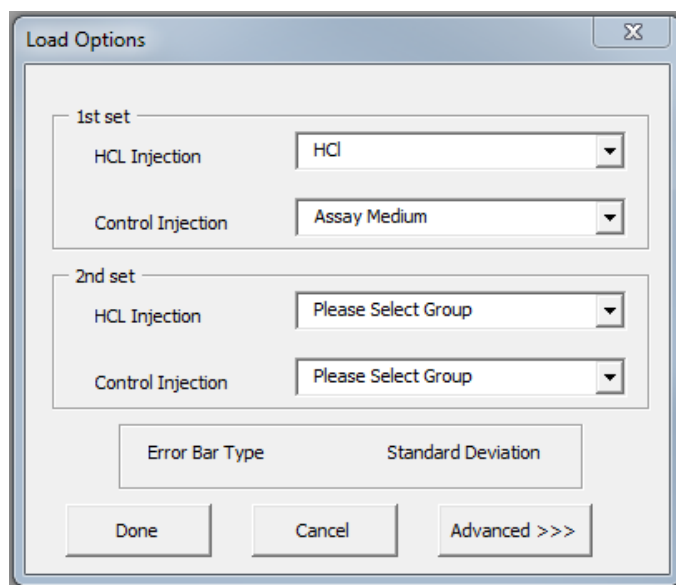

Figure 2. Assign the HCl and Control Injection groups using the Load Options window.
- 13 If only 1 assay medium is used, use the **1st Set** drop-down menus displayed on the **Load Options** window to assign the HCl injection Group and the Control Injection Group (assay medium injections). (See **Figure 2** on page 20.)